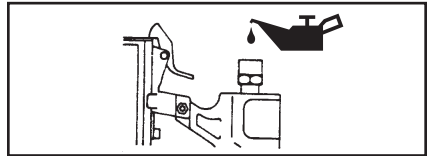

Figure 1
2. Turn the tool so the air inlet is facing up and put **one drop** of DeVilbiss Air Tool Oil (supplied) into the air inlet. High speed spindle oil, such as Unocal RX22, or 3-in-1 oil can be used, DO NOT USE detergent oil or additives. Operate the tool briefly after adding oil. (See Figure 1)